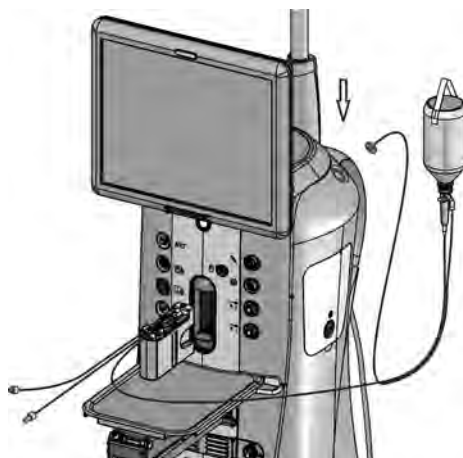

Figure 4.39. Air Tubing Connected to the Back of the System.
9. Connect the air tubing with filter to the air output connector at the back of the system (Figure 4.39).